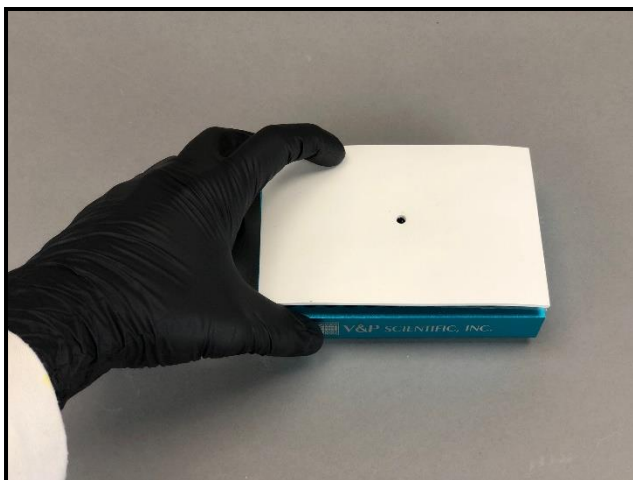

Figure 5. Lining up mat and PFA film
2. Place a single **VP 416-96-MAT** over the PFA film. A good technique is to use fingertips of one hand to hold the PFA film in place while your other hand places the white mat directly over the film ensuring that both center holes align as shown in **Figure 5**.